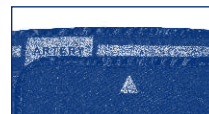

Figure 6
- Check that the measurement arrow on the cuff is within the the "Marking for arm circumference" on the cuff edge (Figure 6).